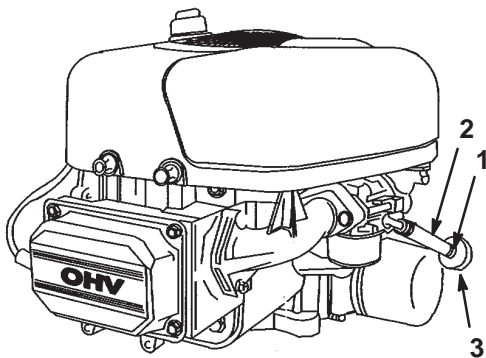

Figure 27
7. Squeeze the ends of the hose clamp together and slide it up the fuel line toward the fuel tank (Fig. 27).
8. Pull the fuel line off of the filter (Fig. 27) and allow the gasoline to drain into a gas can or drain pan.
The best time to replace the fuel filter (Fig. 27) is when the fuel tank is empty. Never install a dirty filter if it is removed from the fuel line.
6. Squeeze the ends of the hose clamps together and slide them away from the filter (Fig. 27).